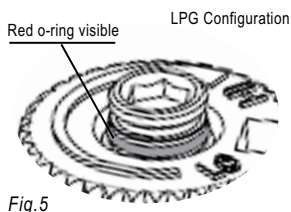

Fig. 5
12. Verify that if the conversion is from NG to LPG, the screw must be re-assembled with the red o-ring visible (Fig. 5).